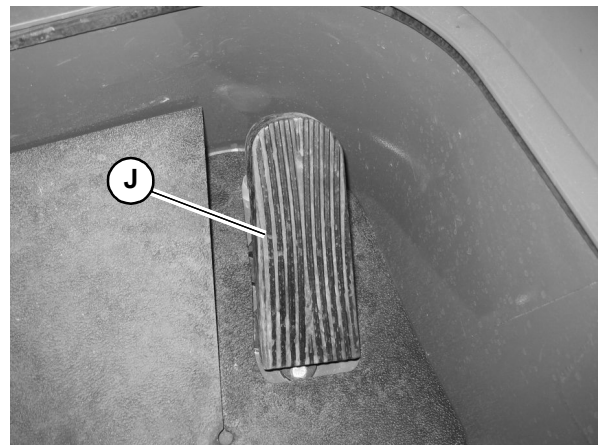

Fig. 23 – Throttle Knob and Pedal
Engine throttle is controlled with both a knob (I, Fig 23) and a pedal (J).